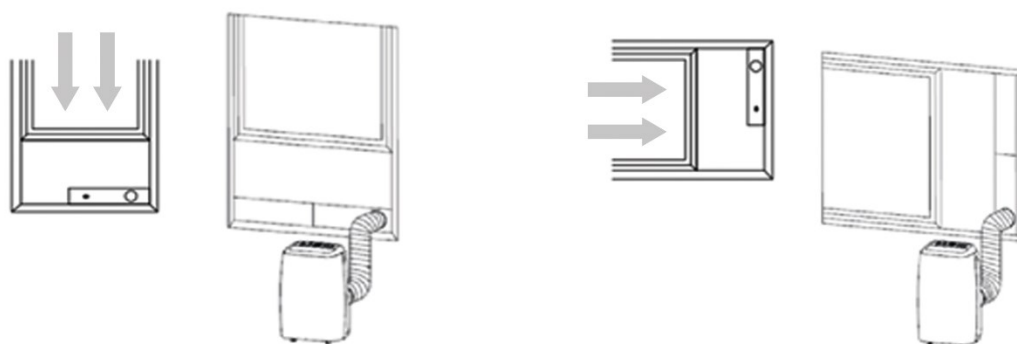

Fig. 5 Installation of window panel
- Connect the window panel adapter to the window panel (see Fig. 5).